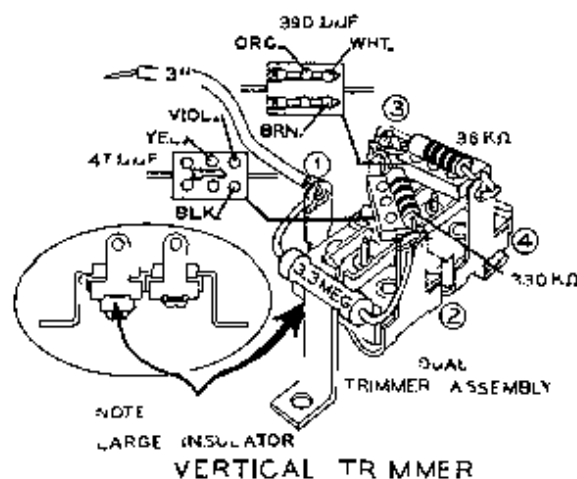

Figure 2
Refer to Figure 2 for the following steps.
- (*) R4. Select one of the dual trimmers (#31-18) and connect a 3.3 megohm 5% resistor between lug 1 (NS) and lug 2 (NS). Keep the leads of the trimmer components as short as possible and place them as shown in Figure 2.